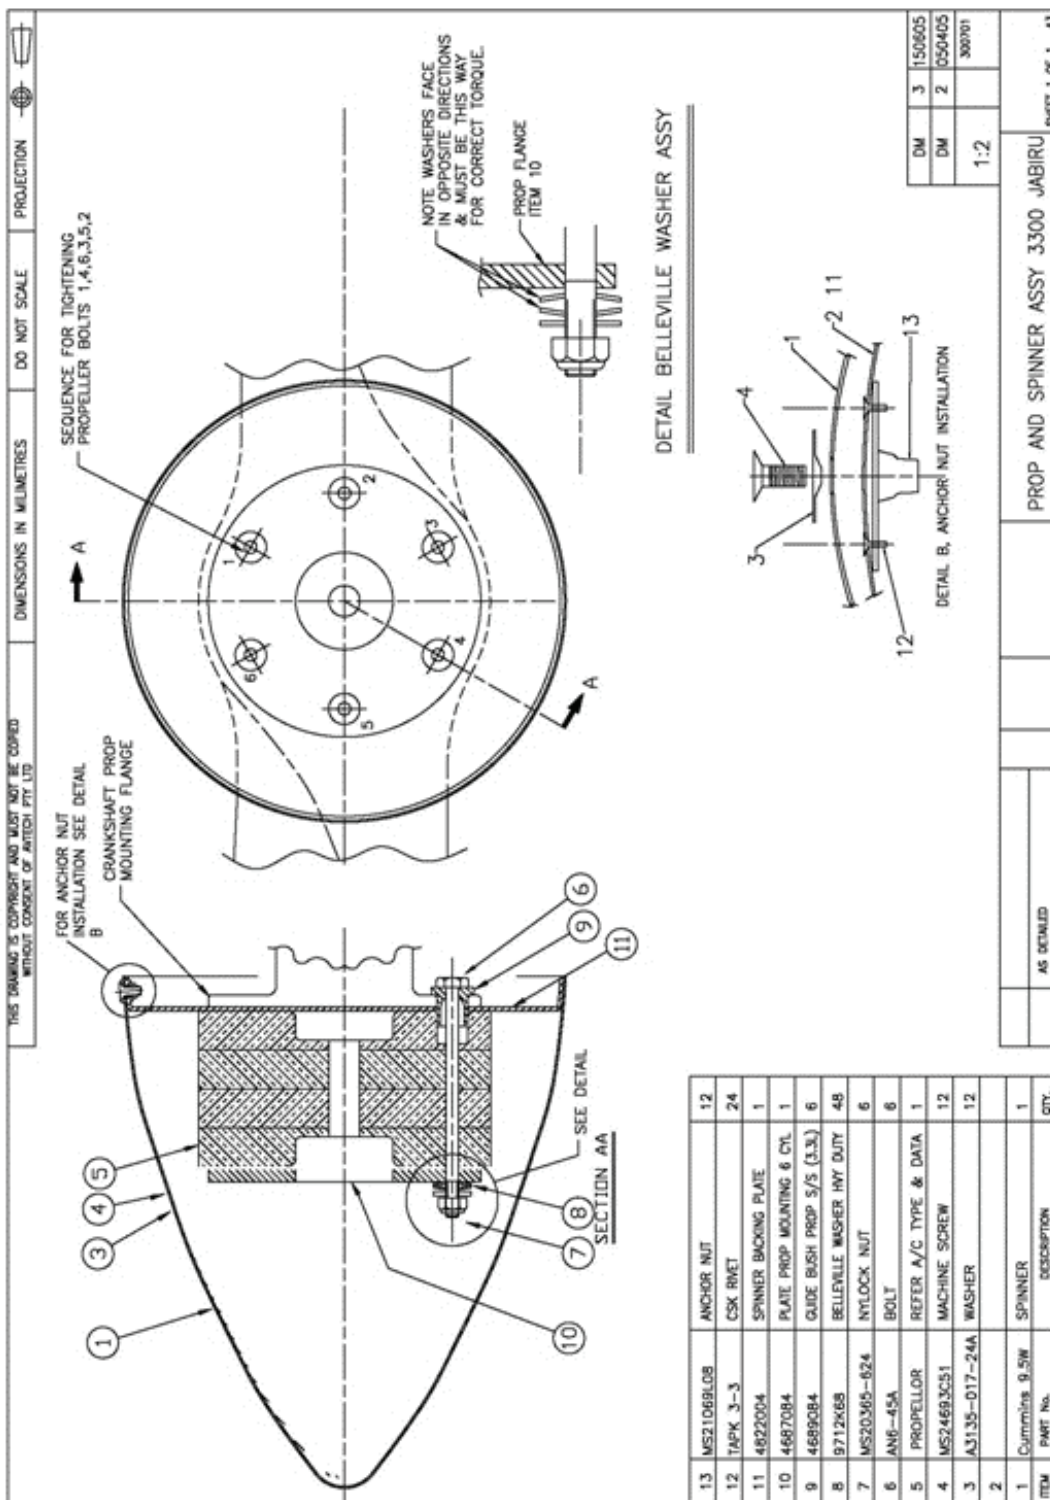

Figure 9-1: Prop Mount Detail
6. Install two Belleville washers on each prop bolt as shown in Figure 9-1.
9. Torque to 15-17 ft-lbs in the sequence indicated in Figure 9-1.
3. Set torque wrench to 15-17 ft-lbs. Check tension of nuts by moving in a criss-cross pattern around the hub (see Figure 9-1 for torque pattern). Use box-end wrench to hold bolt heads secure.
6. Use torque wrench to tighten bolts to between 15 and 17 ft-lbs of torque, moving in a criss-cross pattern around the hub (see Figure 9-1 for torque pattern).
3. Set torque wrench to 20 ft-lbs and check tension on the six propeller blade clamp bolts. Do not loosen bolts— just apply tightening pressure to the bolts in a criss-cross pattern similar to that shown in Figure 9-1.